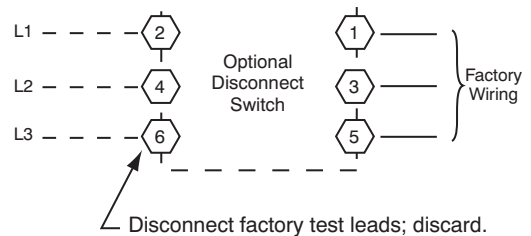
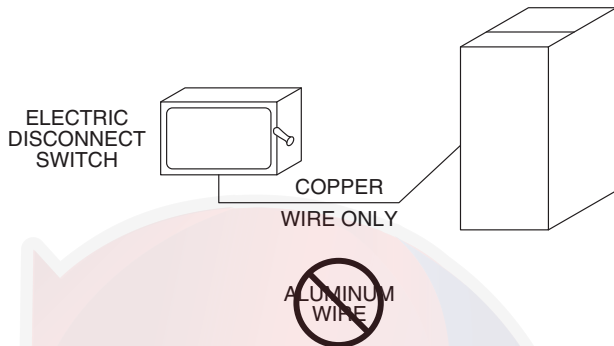

Fig. 26 — Power Wiring Connections
Fig. 27 — Disconnect Switch and Unit
Field power wires are connected to the unit at line-side pressure lugs at the main terminal block (TB1) or at factory-installed option non-fused disconnect switch. (See Fig. 27). Max wire size is #2 AWG (copper only). See Fig. 26.
All field wiring must comply with NEC and all local codes. Size wire based on MCA (Minimum Circuit Amps) on the unit informative plate. See Fig. 26 and the unit label diagram for power wiring connections to the unit power terminal blocks and equipment ground. Maximum wire size is #2/0 AWG (copper only) per pole.
2. Install power lines to terminal connections as shown in Fig. 26.